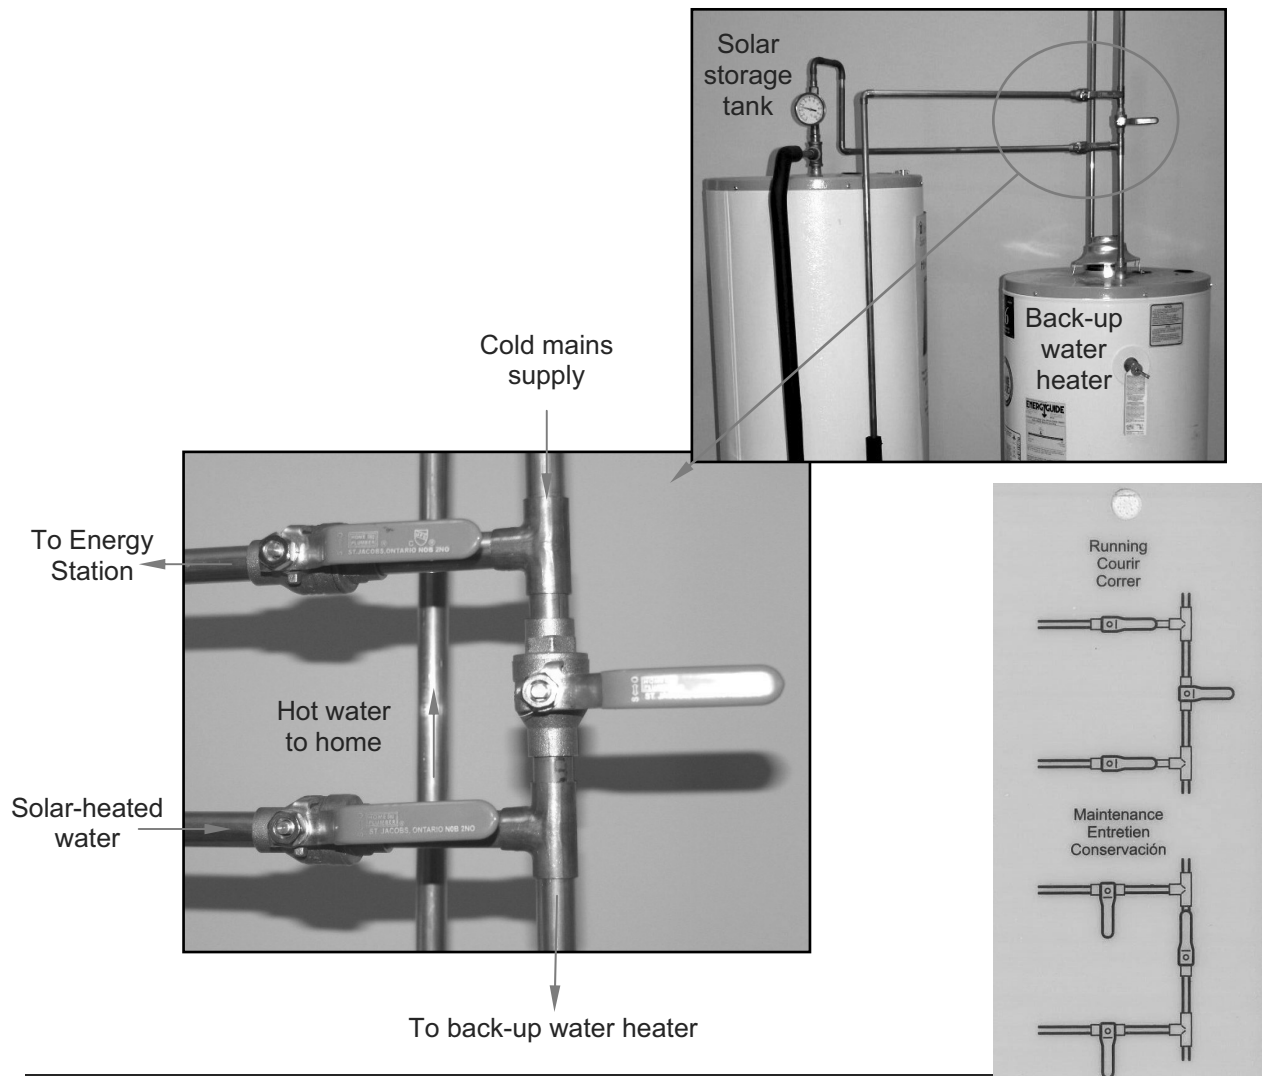

Fig.4.4.1 – Bypass valve configuration.
1. Cut cold mains supply to existing water heater. Insert ball valve into cold supply line with tee fittings upstream and downstream (either $\frac{3}{4}$ " or $\frac{1}{2}$ " depending on existing pipe sizes) (Fig.4.4.1). Tee fitting and line upstream from ball valve may be PEX or copper pipe. Tee fitting and line downstream of ball valve must be rigid copper as temperature of solar-heated water may exceed PEX ratings.
2. Tee fitting above ball valve will direct mains water supply to cold mains inlet of Energy Station ($\frac{3}{4}$ " MNPT at right of upper manifold). A second ball valve should be connected downstream from this tee (Fig.4.4.1).
3. Tee fitting below initial ball valve will direct solar-heated water into existing water heater (Fig.4.4.1). A third ball valve should be connected upstream from this tee.
5. Tie *Valve Positioning Label* to pipe in proximity to ball valves to indicate *Running* and *Maintenance* valve positions (Fig.4.4.1).
Hot water outlet of solar storage tank is to be connected to existing water heater cold inlet (through third ball valve and into tee below initial ball valve). Using dealer-supplied materials (copper pipe and sweat fittings), fit hot water outlet of solar storage tank (open port of thermometer assembly tee at top of tank) to “cold” inlet of existing water heater (*Fig.4.4.1*). **Do not use PEX as solar water heating appliance can produce very hot water that exceeds PEX temperature ratings.**